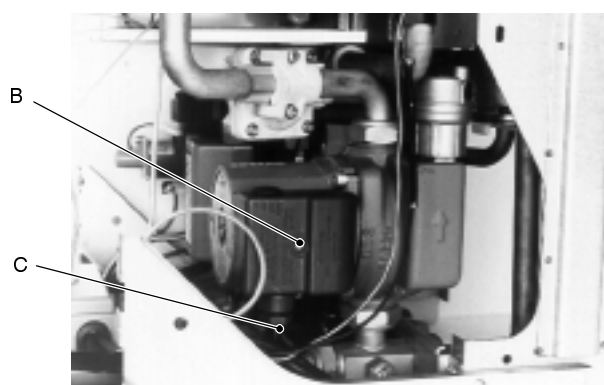

fig. 24
- 3 Completely loosen screw *B* (fig. 24) and remove the protection lid of the electrical connections.